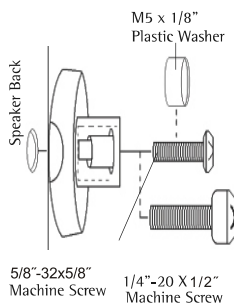

Figure 3
- Check the size of the hole and make sure the 5/8"-32x5/8" machine screw, the 1/4"-20 x 1/2" machine screw, the M6 x 20mm, or the M5 x 20mm fits inside (Figure 3).